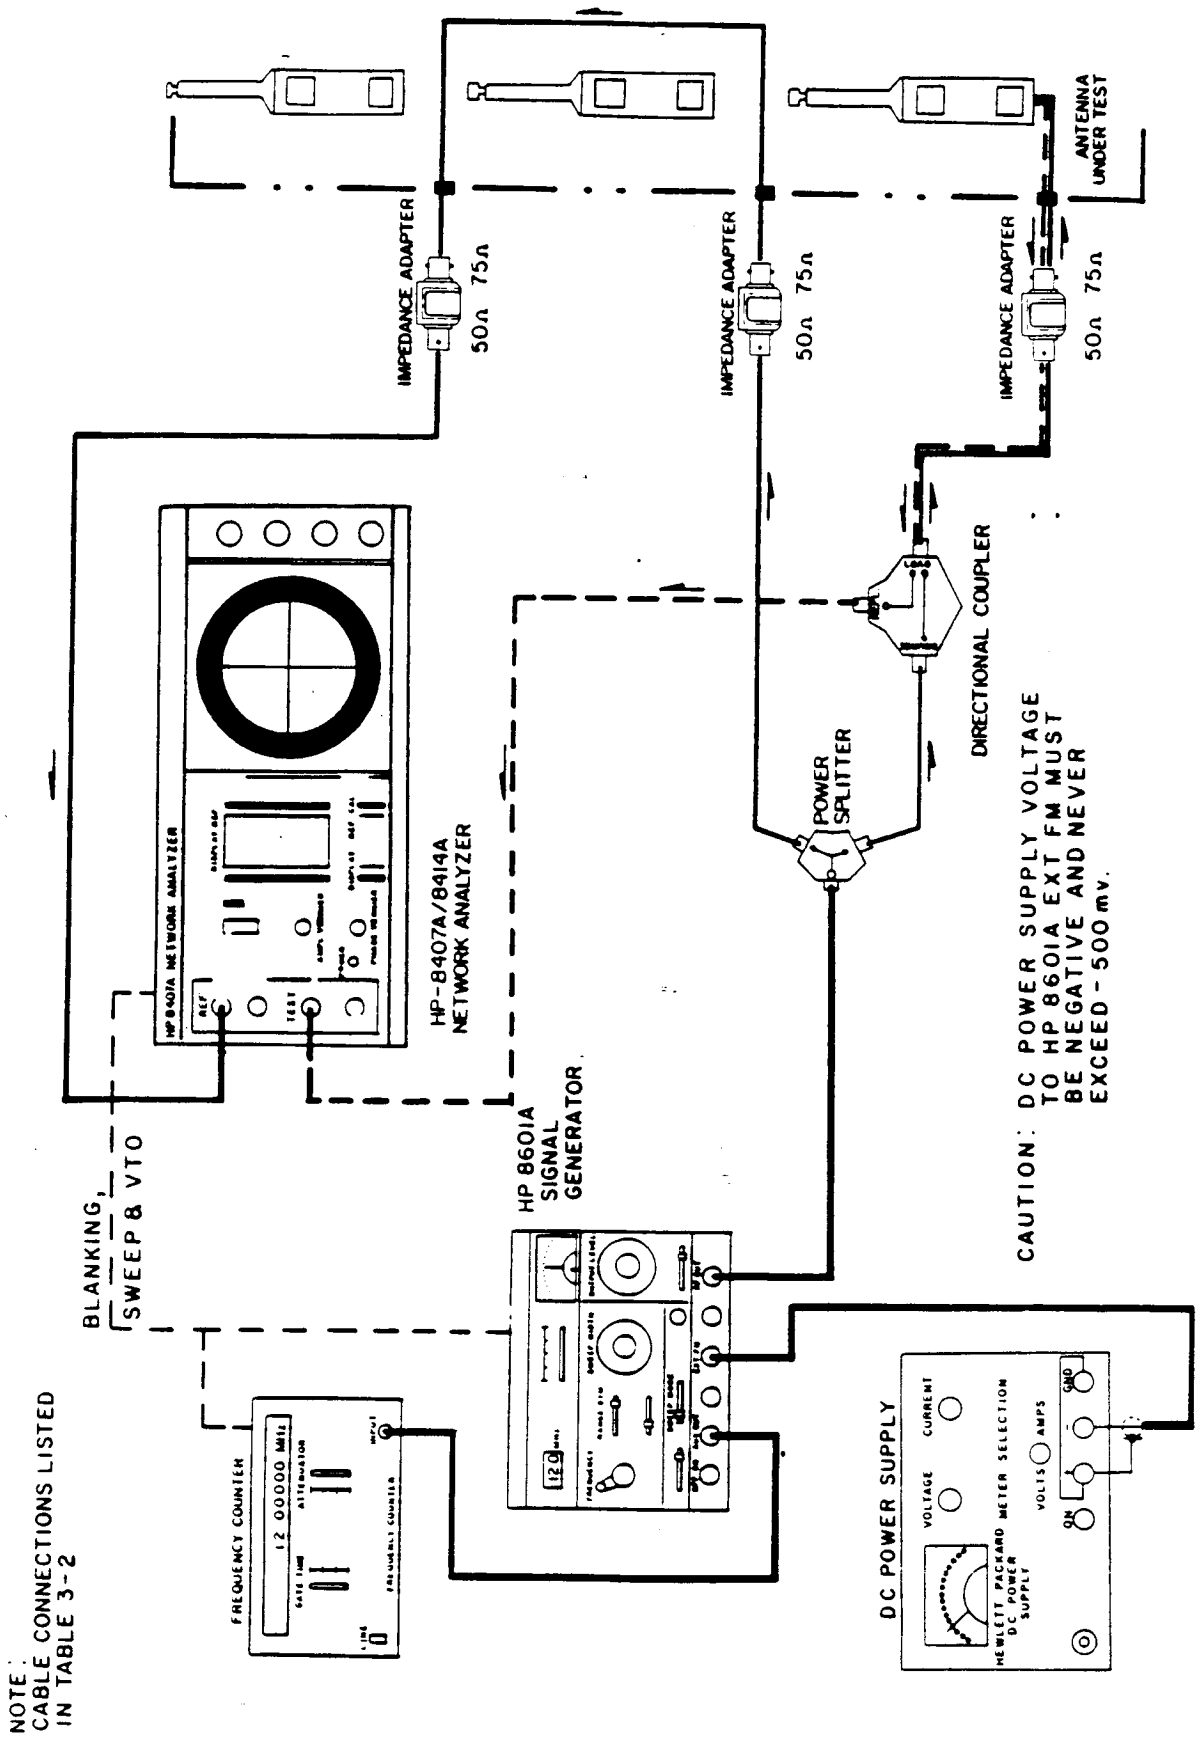
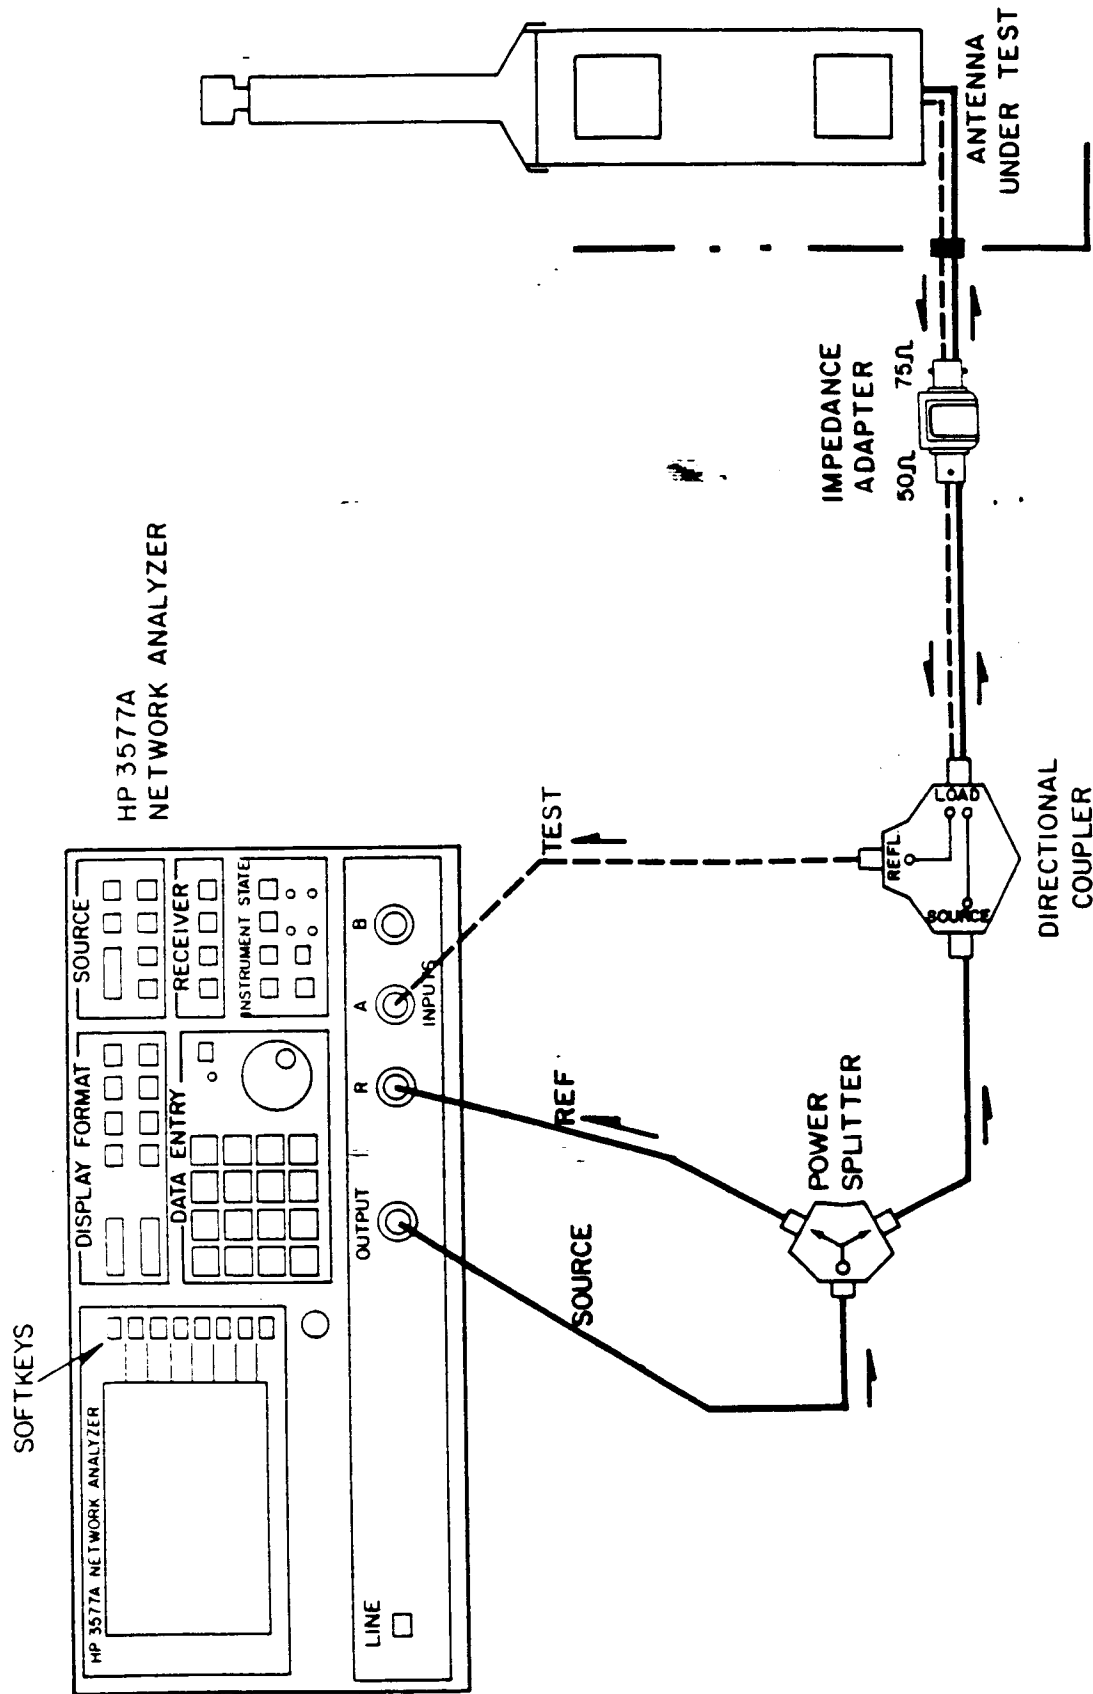

FIGURE 3-7. Simplified Driving Point In-ance (Smith Chart), Test Diagram.
FIGURE 3-8. Simplified Driving Point Impedance (Smith Chart), Test Diagram.
**3.5.1** The Smith chart test setup using HP 8407A/8414A is shown in Figure 3-7. The output of the sweep oscillator is split into two equal amplitude and phase-coherent or phase-matched signals: reference and test signal. The lower test signal passes through the directional coupler to the antenna under test. Normally, the antenna causes a reflection of the signal which then returns back through the transmission line into the directional coupler and out through the reflected port. The reflected signal then goes into the test channel of the network analyzer. On the other hand, the reference signal travels through several transmission lines and impedance adapters before entering the reference channel of the network analyzer. This is done to add phase delays to the reference signal equal to the phase delays that the test signal accumulates through the test system. The network analyzer then measures the amplitude and phase differences between the reflected test signal and the reference signal. The test equipment control settings for HP 8407A/8414A system are given in Table 3-1 and cable connections are summarized in Table 3-2.
**3.5.2** The Smith chart test setup using the HP 3577A is shown in Figure 3-8. The output of the HP 3577A Network Analyzer is split into two signals: reference and test. The test signal passes through the "source" then "load" ports of the directional bridge, travels to the antenna under test, is reflected by the antenna, returns back through the "load" port, and out through the "reflected" port. The reflected signal then goes into the test channel of the HP 3577A Network Analyzer. The reference signal travels through one short cable. By use of the normalizing feature of the HP 3577A the reference cable is made equal to the test cable (phase-matched) inside the HP 3577A and all measurements are made with this in memory. The network analyzer then measures the amplitude and phase differences between the reflected test signal and the reference signal. By use of the normalizing feature on the new HP 3577A Network Analyzer, long phase-matched cables are eliminated. For control settings and cable connections for the HP 3577A refer to Tables 3-3 and 3-4, respectively.
**3.5.3 Test Setups/Calibration.** Again refer to Figure 3-7 or Figure 3-8 showing the external connections for the Smith chart test setups and calibration.
1. Set up equipment, as shown in Figure 3-8, using a known good antenna (this antenna can be found by use of the TDR test).
The other end of the test cable is connected to the LOAD PORT of the direction coupler, while the REFLECTED PORT is connected to the test channel of the Network Analyzer. Observe that the reference signal for the network analyzer is connected directly to the power splitter without going through the antenna transmission lines, since phase is not critical for this test. For the HP 3577A system, the test setup is identical to the Smith chart test. This is shown in Figure 3-8.